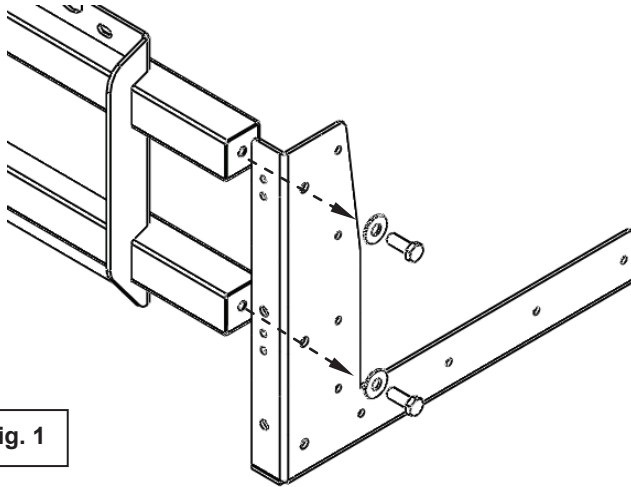

Fig. 1
1. Using (2) washers and (2) 1/4"-28 bolts, assemble one of the side mount brackets to the back bracket as shown in Fig. 1. The bolts should be hand tightened only at this point. Repeat procedure to attach the other side mount bracket to the other end of the back bracket.